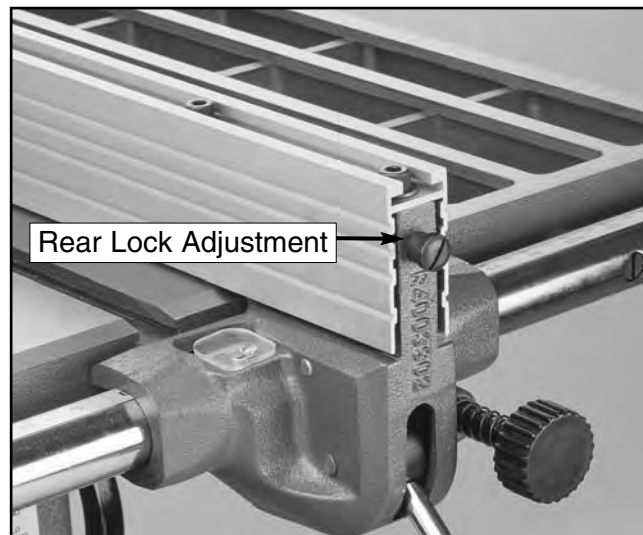

Figure 37. Rear lock adjustment screw.
3. Loosen the rear lock adjustment, the slotted screw on the front of the fence shown in **Figure 37**, until the rear locking lever ceases to engage the rear rail with the fence in the locked position.